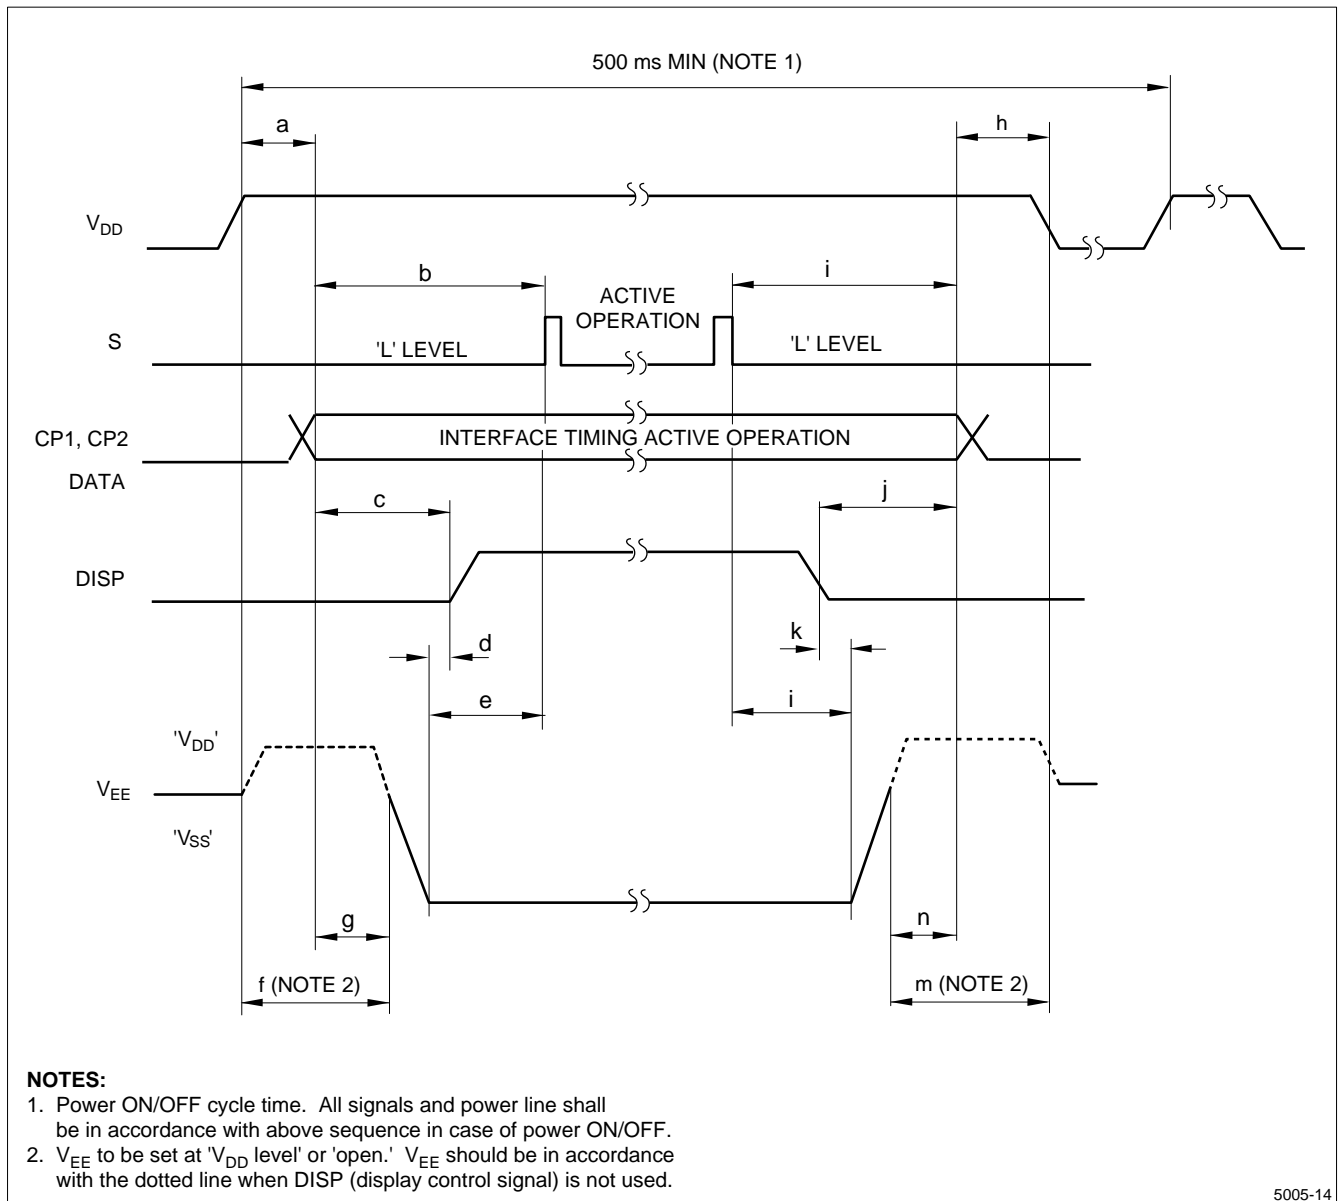

Figure 14. Supply Voltage Sequence Condition
- The unit should be driven according to the specified ratings to avoid malfunction or permanent damage. DC voltage drive leads to rapid deterioration of LC, so ensure that the drive is alternating waveform by continuous application of the signal M. Avoid latch-up of driver LSIs and application of DC voltage to LCD panel by following the ON/OFF sequence shown in Figure 14.